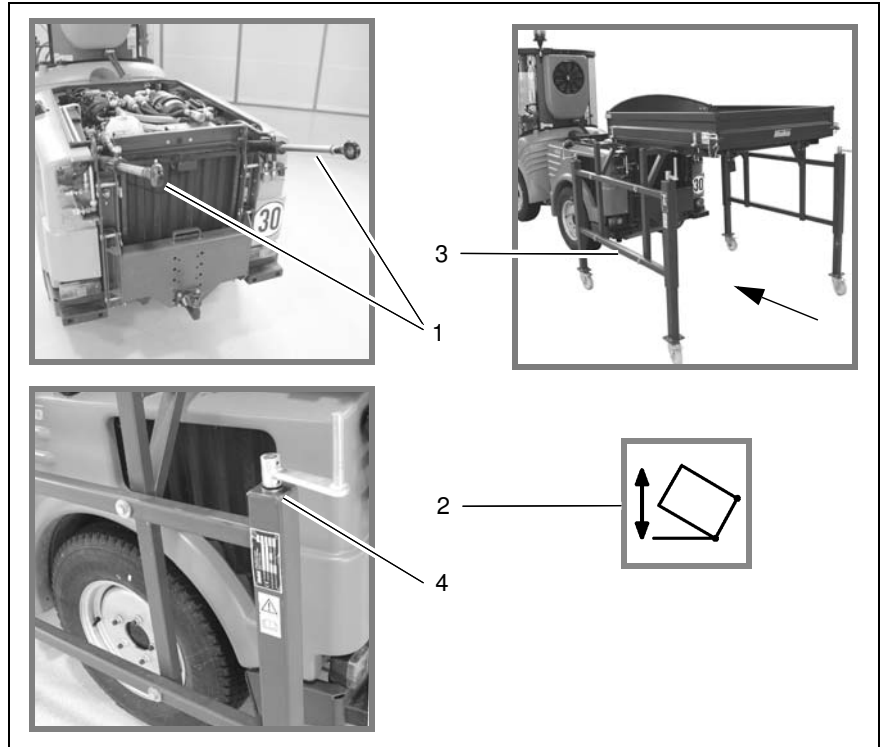

Fig.39
1. Fold the lifting cylinder (Fig. 39/1) backwards and extend it by pressing the button (Fig. 39/2).
2. Carefully place the lifting cylinder (Fig. 39/2) onto the vehicle's rear section.
3. Push the loading platform with the storage stand (Fig. 39/3) over the basic vehicle.
4. Using the cranks (Fig. 39/4) lower the loading platform uniformly and in parallel.